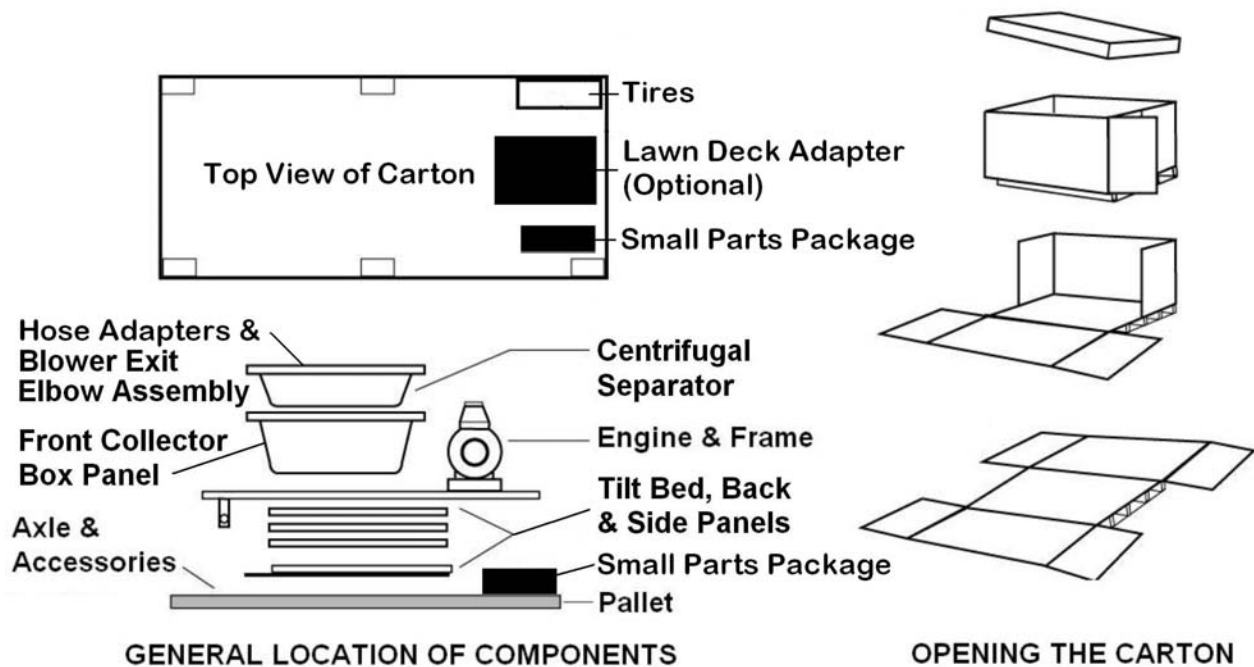

Figure 2
2. Remove the top of the carton (**Figure 2**).
3. Open the ends of the stapled cardboard carton and fold the sides down (**Figure 2**). The staples are sharp so be careful.
4. Remove the wheels from the forward upright compartment (**Figure 2**).